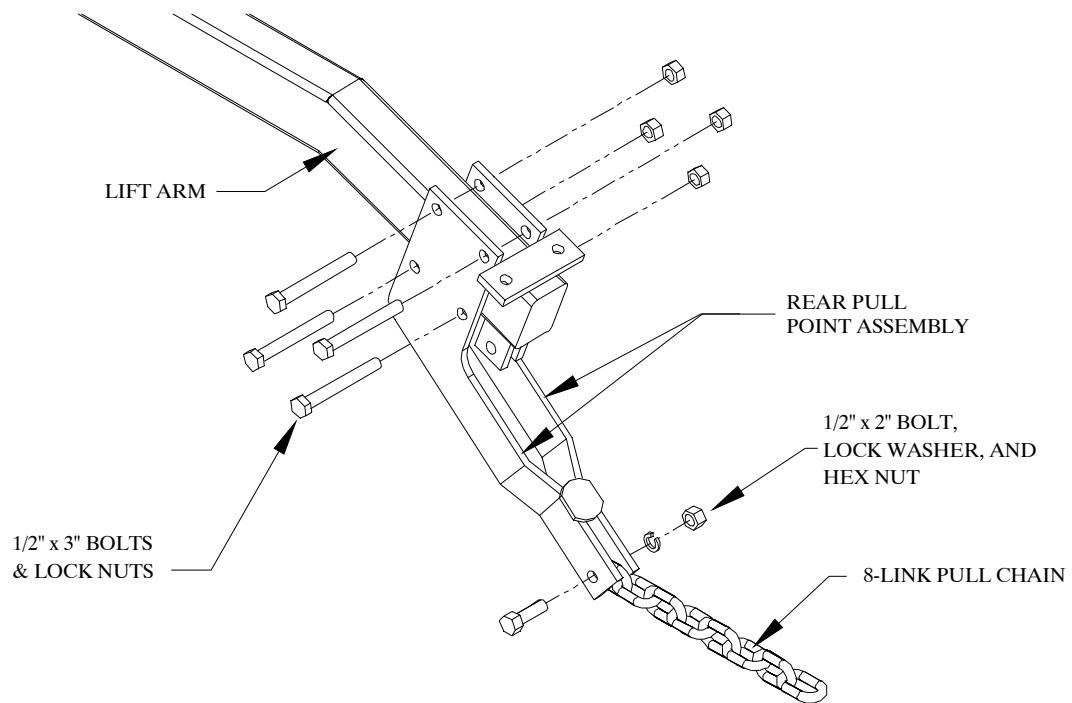

Figure 13
5. Attach a rear pull point assembly to the rear end of each lift arm. Use four 1/2" x 3" bolts and lock nuts. Refer to Figure 13.
6. Bolt an 8-link pull chain to the end of the rear pull point assembly with a 1/2" x 2" bolt, lock washer, and hex nut. Refer to Figure 13. This chain will connect to the first bar of the second set of harrow sections.